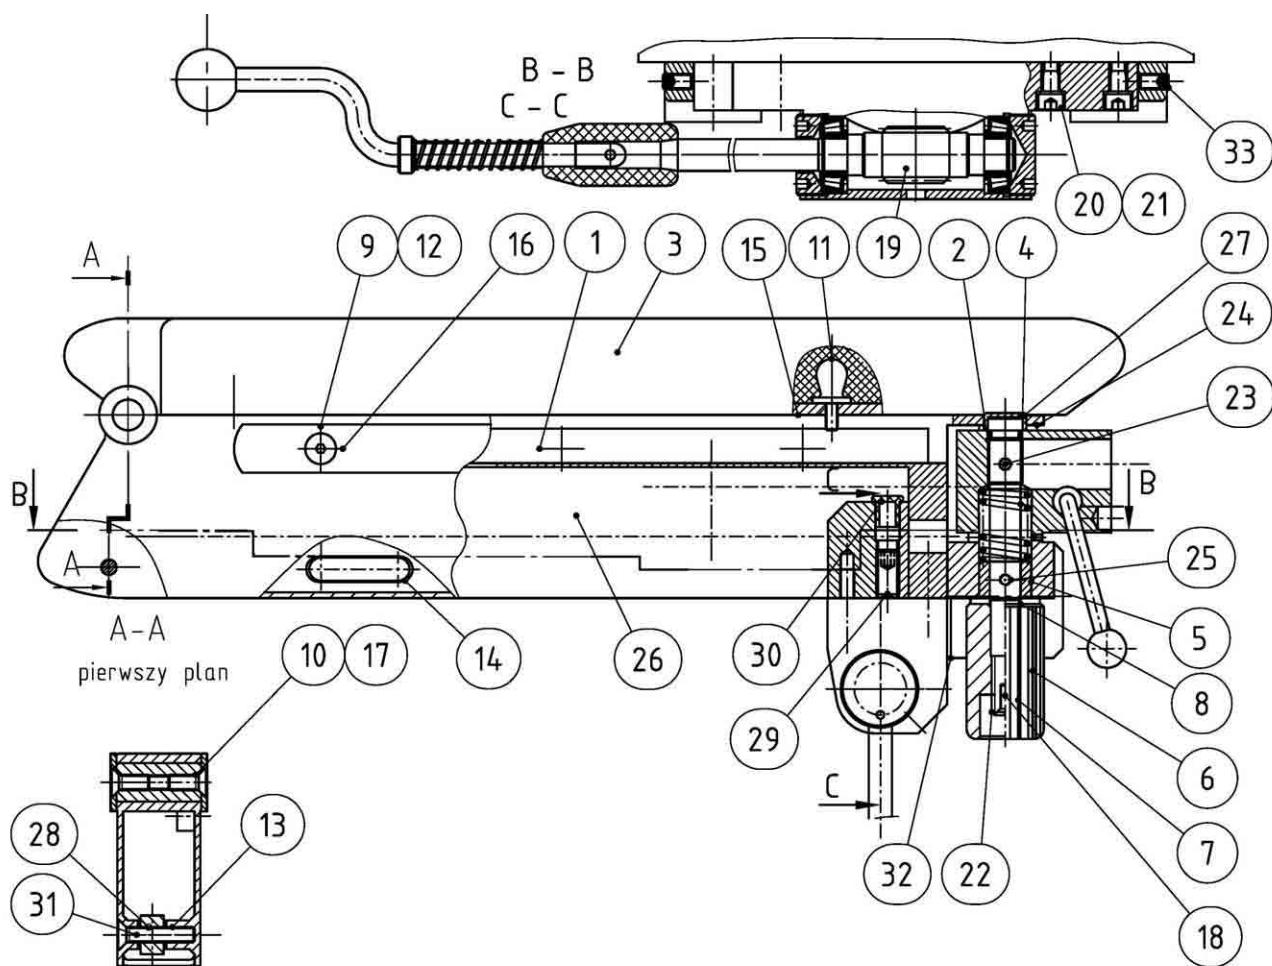

Fig.4 Set of seat
Leg section holder left (item 27, fig.4)
*Assembly of a spring (item 4)*
1. the spring (item 4) on the handle of the lock (item 2) and protect by putting the end of the spring in the opening in the axis of the lock.
2. Put the disk (item 3) on the handle of the lock (item 2) and screw the ball knob.
3. Place the assembled lock in the body (item 1).
4. Screw three M3 screws (item 5).
The screw in the right handle of the footrest (item 2, fig. 4) should be replaced in the same way.